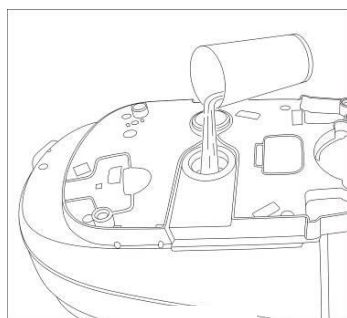

Fig 10
7. Pour one cup of tap or filtered water through the boiler underneath hole as Fig 10
10. Pour 100ml water into the boiler through the boiler underneath hole as Fig 10